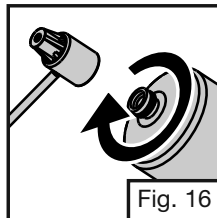

Fig. 16
3. Remove LPG cylinder from regulator and replace protective cap on cylinder. (Fig. 16)